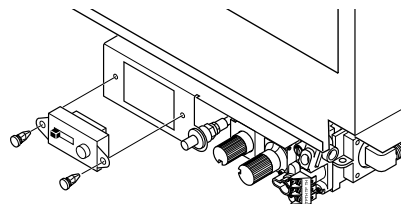

Figure 46 - Installing Remote Receiver
5. Place receiver into valve bracket and align holes (see Figure 46).